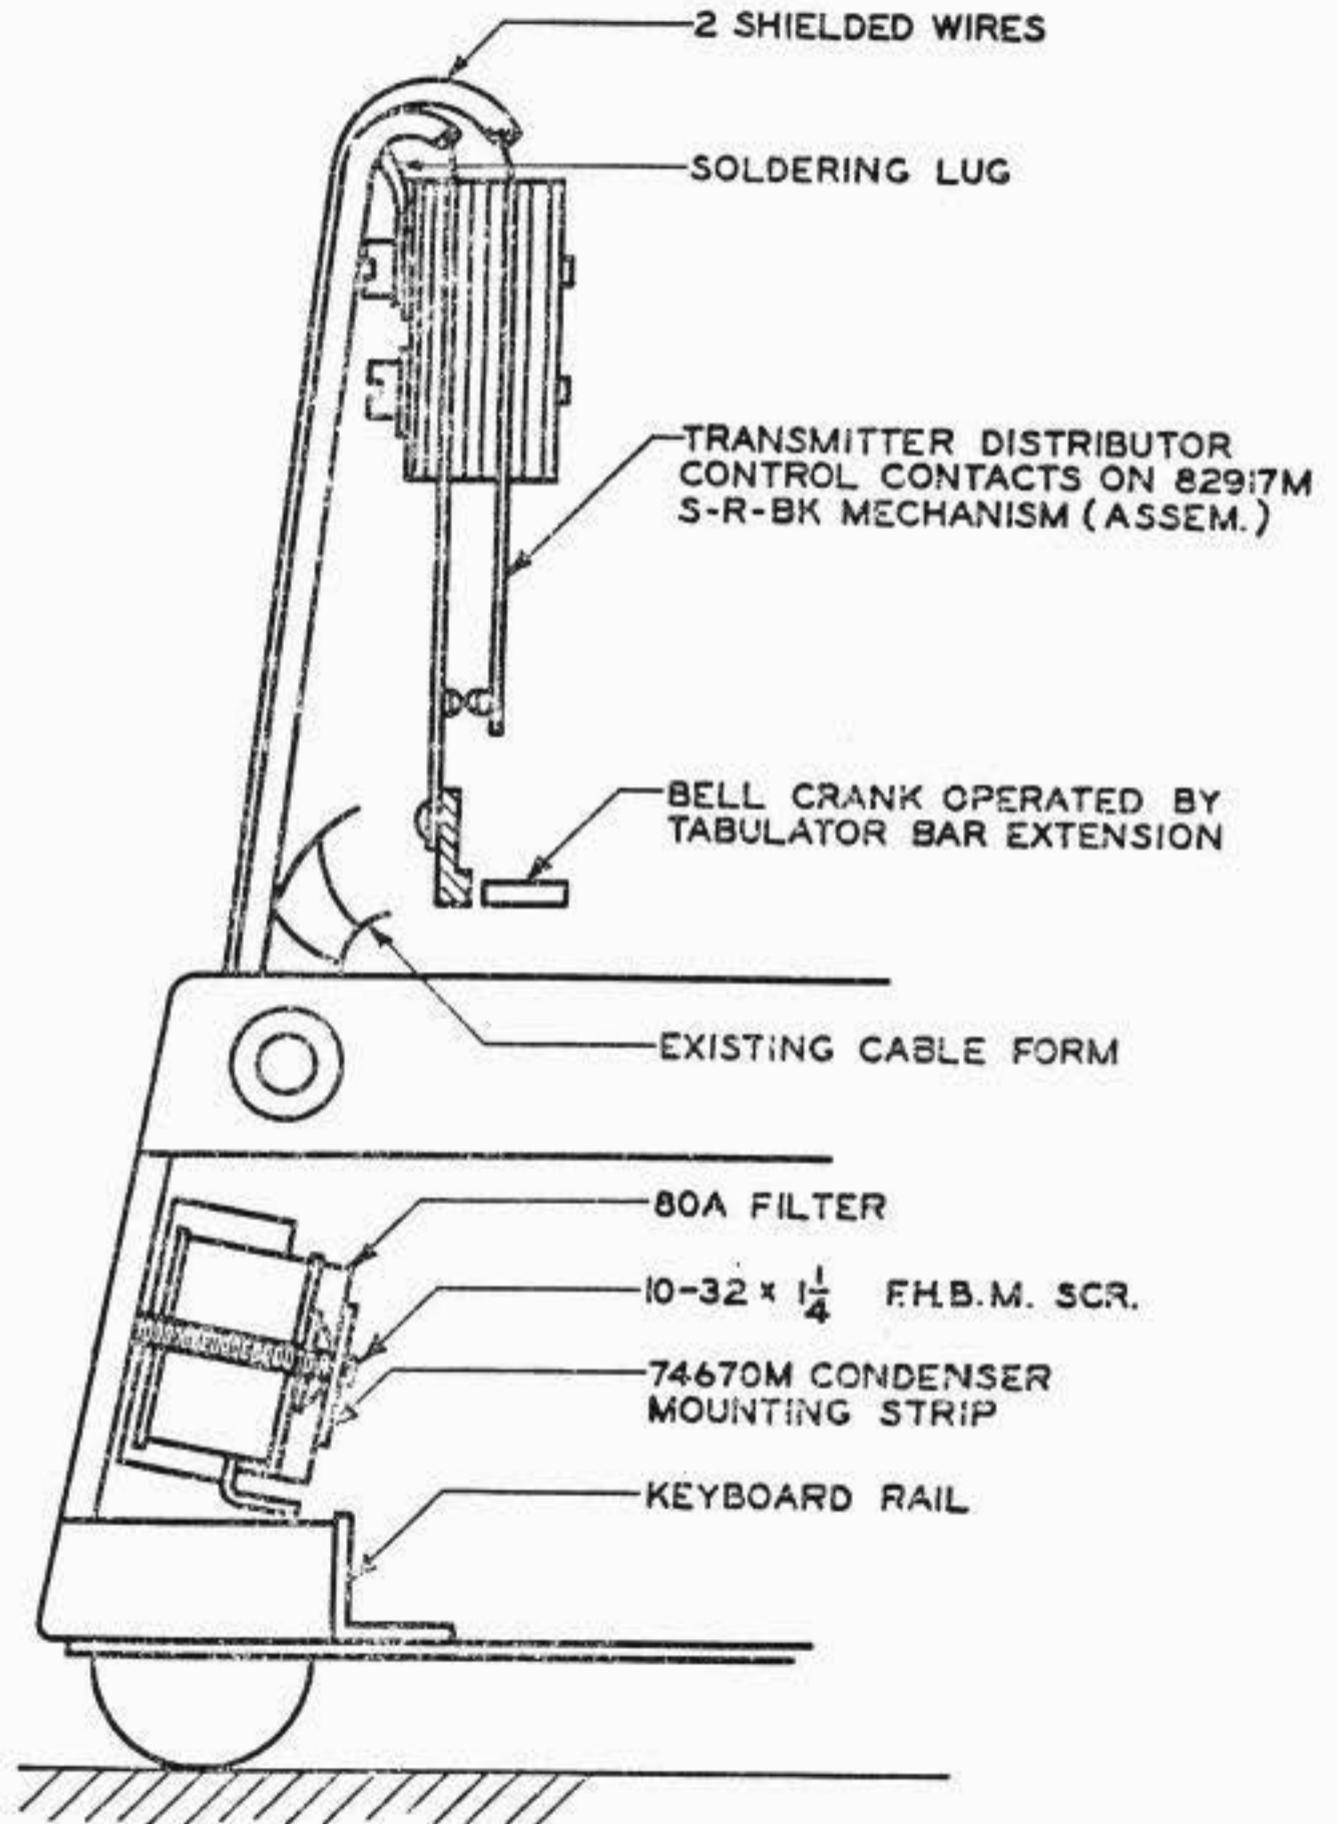
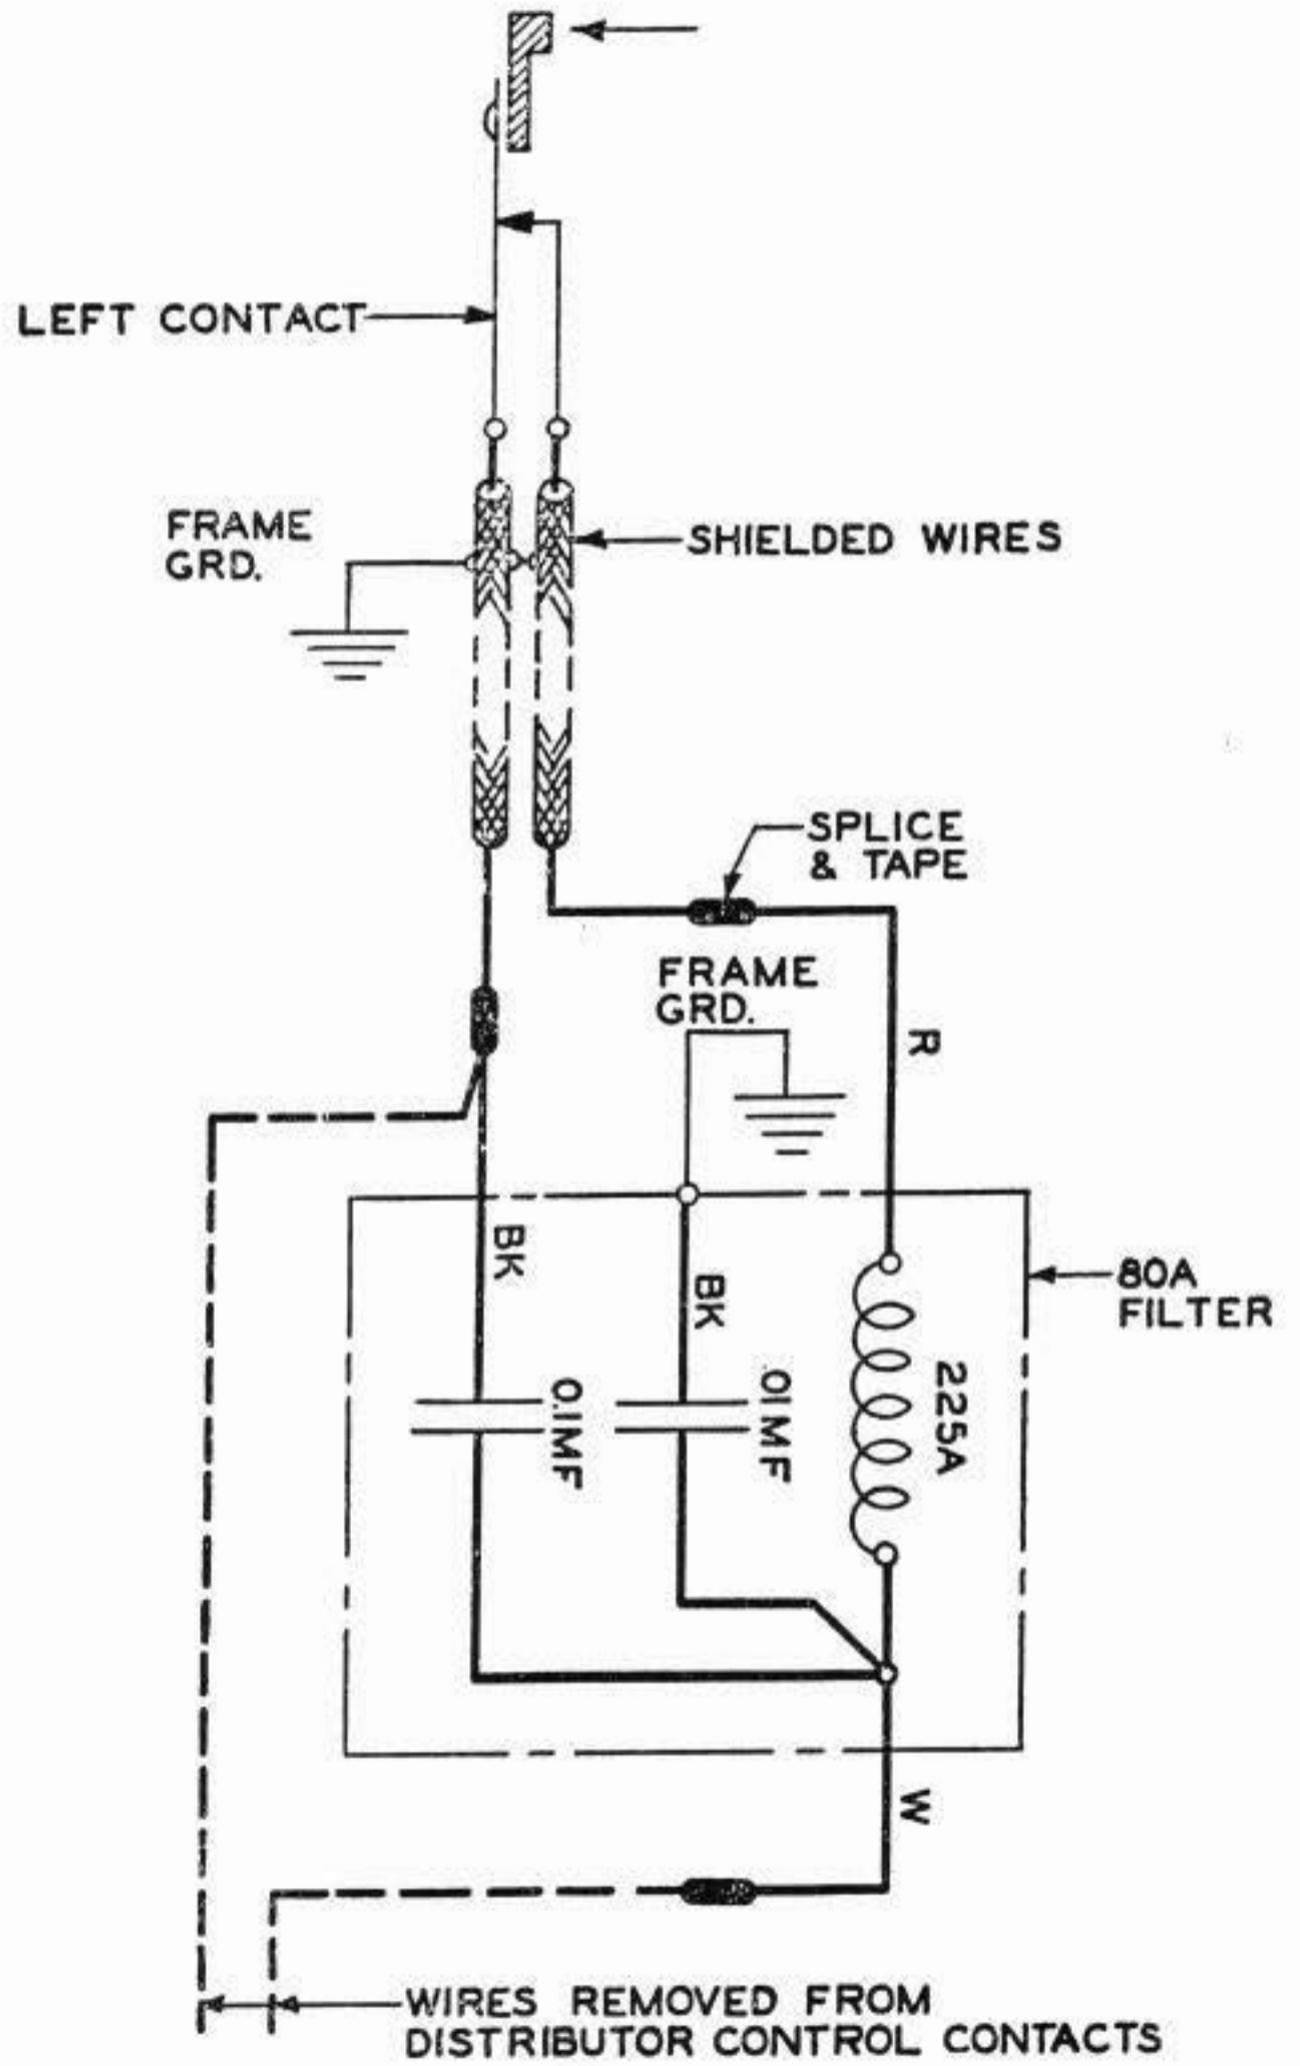

Fig. 1
Fig. 2
3.04 Mount the 80A filter with the coil toward the front as shown in Fig. 1, proceeding as follows:
2.05 Referring to the wiring diagram shown on Fig. 2 and to the arrangement of wiring shown on Fig. 1, connect the 80A filter as follows:
- (1) Connect the white lead of the 80A filter to the wire removed from the left-hand contact of the send-receive break mechanism, cutting both wires as required to eliminate excess length.
- (2) Cut the red lead from the 80A filter to a length of 1" and splice, solder and tape to a shielded lead making sure that the copper braid is skinned back from the spliced connection about one-quarter inch.
- (3) Run the shielded lead through the base and connect it to the left-hand contact of the distributor start control contacts of the send-receive-break mechanism, taking care in this case also that the copper braid is skinned back from the connecting point about one-quarter inch.
- (4) Connect a shielded lead to the right-hand contact of the distributor start control contacts.
- (5) Run this lead through the hole in the base casting and connect it to the black lead of the 80A filter which connects to the 312A condenser, shortening the condenser lead to about 1".
- (6) Before soldering and taping the connection made in (5) join this point to the lead in the cable form which formerly connected to the right-hand contact of the distributor start control contact. Solder and tape these leads and form them so as to avoid interference when the keyboard perforator is put in place.
- (7) Remove the left front 6810M screw and lockwasher which mounts the 74053M slip connection mounting plate (assem) and put the No. 10 soldering lug under the lockwasher and the 6810M screw.
- (8) Connect the wire from the rear of the filter bracket to the lug under the 6810M screw making the connection as short and direct as practicable.
- (9) Mount a soldering lug under the upper screw which holds the distributor start control contacts pile-up.
- (10) Solder the shields of both leads to the lug mounted in (8).
- (11) Check the connections with Fig. 2 and form the wiring as indicated in Fig. 1.